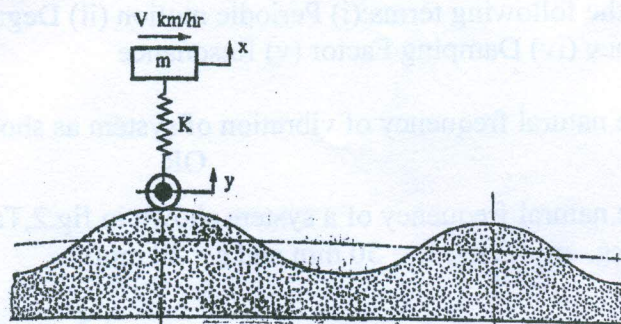

Fig.4
Q.3 [A] The spring of an automobile trailer is compressed by 0.1 m under its own weight of 500 kg as shown in fig.4. Find the critical speed, when the trailer is travelling over a road with a profile approximated by a sine wave of amplitude of 0.08 m and wave length of 14 m. What would be the amplitude if the trailer was to move at 60 km/hr. [6]